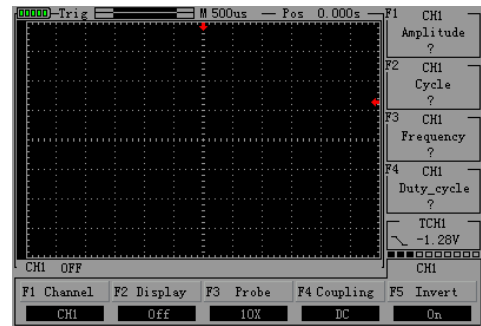

Figure 2-8
- Press "CH1"→"F2", set the CH1 channel does not display The waveform. As shown in figure 2-8